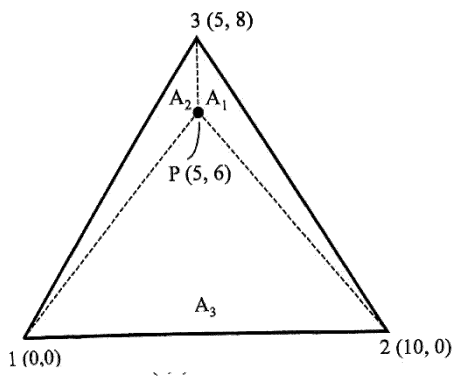

Figure 3 (Q 5b-or)
- (b)** In a triangular element, temperatures at nodes A, B and C are 100, 200 and 300 ⁰C respectively. The coordinates of nodes are A (0, 0), B (10, 0) and C (5, 8). Estimate the shape functions associated with nodes and find temperature at point P (5,6). Refer figure 3. **04**